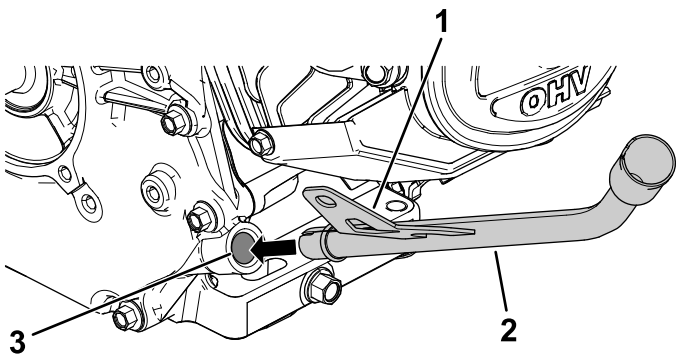

Figure 9
5. Insert the dipstick tube at an angle into the tube opening (Figure 9).
6. Using a rubber mallet, tap the **bracket** (item 1) on the dipstick tube (Figure 9) to secure the tube into the engine.